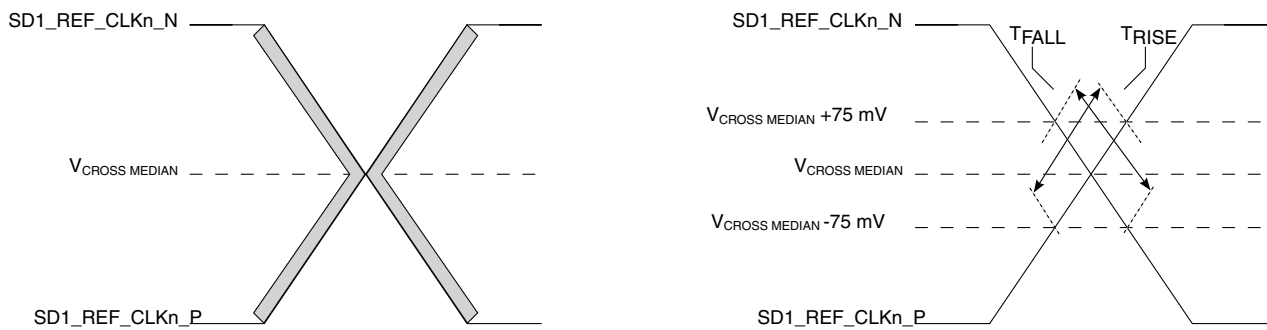

Figure 67. Single-ended measurement points for rise and fall time matching
11. Matching applies to rising edge for SD1_REF_CLKn_P and falling edge rate for SD1_REF_CLKn_N. It is measured using a 200 mV window centered on the median cross point where SD1_REF_CLKn_P rising meets SD1_REF_CLKn_N falling. The median cross point is used to calculate the voltage thresholds that the oscilloscope uses for the edge rate calculations. The rise edge rate of SD1_REF_CLKn_P must be compared to the fall edge rate of SD1_REF_CLKn_N, the maximum allowed difference should not exceed 20% of the slowest edge rate. See Figure 67.